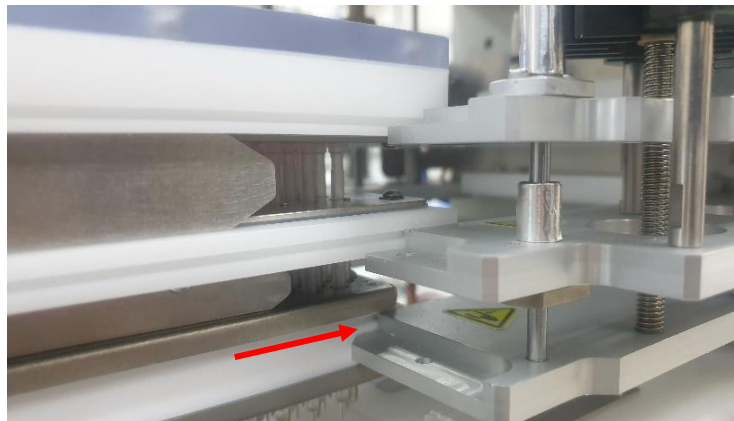

Figure 3-8: Align Fluidic Head to Machine (step 2)
10. Followed by the bottom block (Figure 3-8 red arrow).